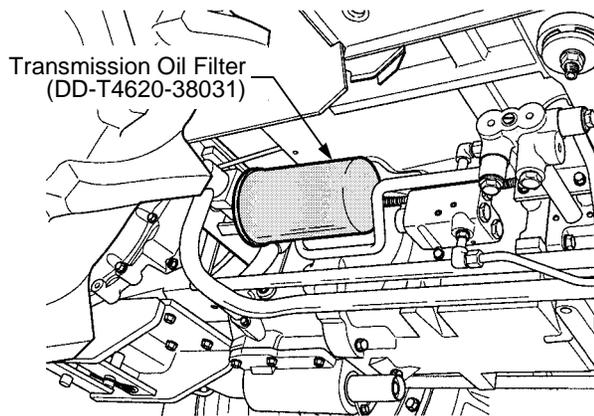

Figure 62
- Move the drain pan beneath the filter, then remove the filter by turning it counterclockwise using a filter wrench to loosen. See Figure 62.